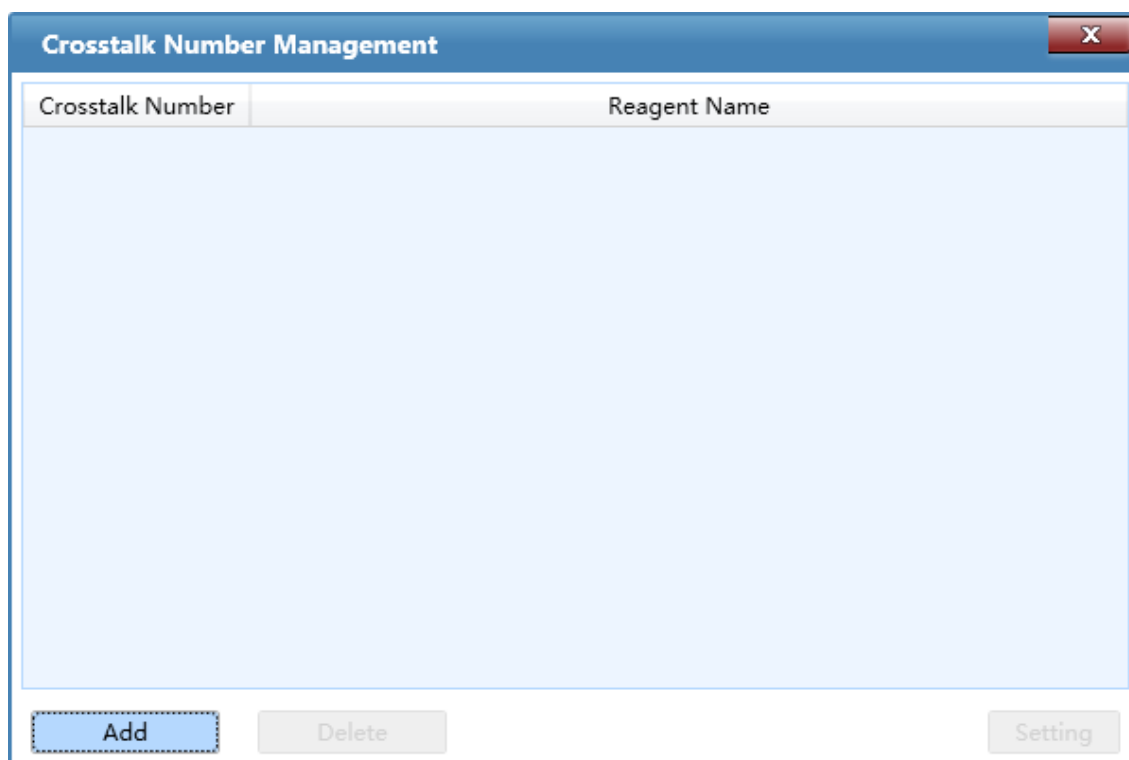

Figure D-3.7. Add Crosstalk Number
6. **Crosstalk Number Management:** user can add crosstalk number in **Crosstalk Number Management**, as shown in figure D-3.7.